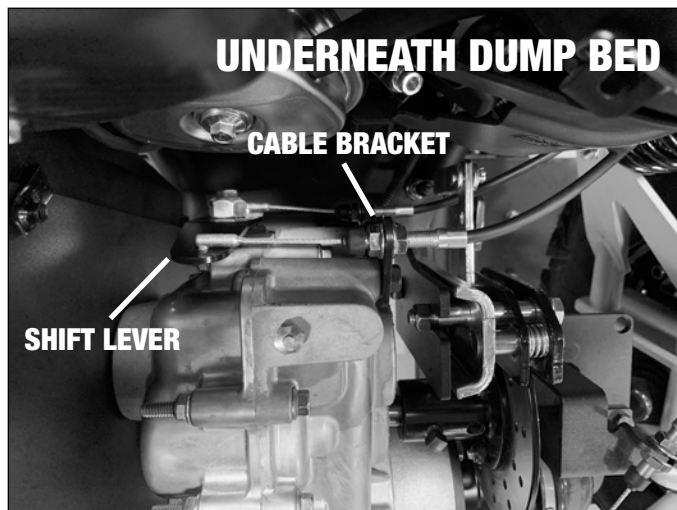

figure 5.4
5. Pull the slack out of both cables (but do not stretch the springs) and tighten the adjuster nuts or you can also use the adjuster nuts on the cable bracket located on the transmission. (figure 5.4)